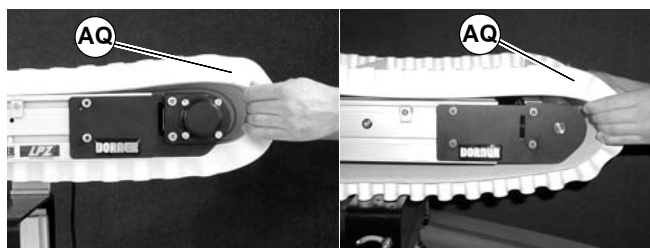

Figure 27
8. Remove belt (AQ of Figure 27) from conveyor.